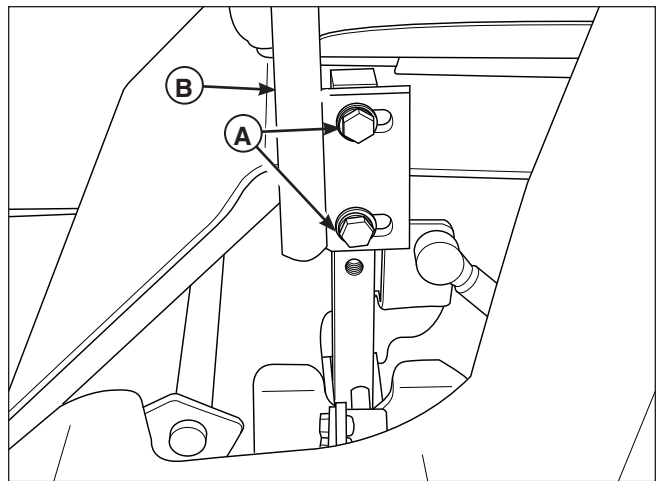

Figure 14. Ground Speed Control Lever Adjustment
Loosen the mount bolts (A, Figure 14) and pivot the lever(s) (B) to align with each other.